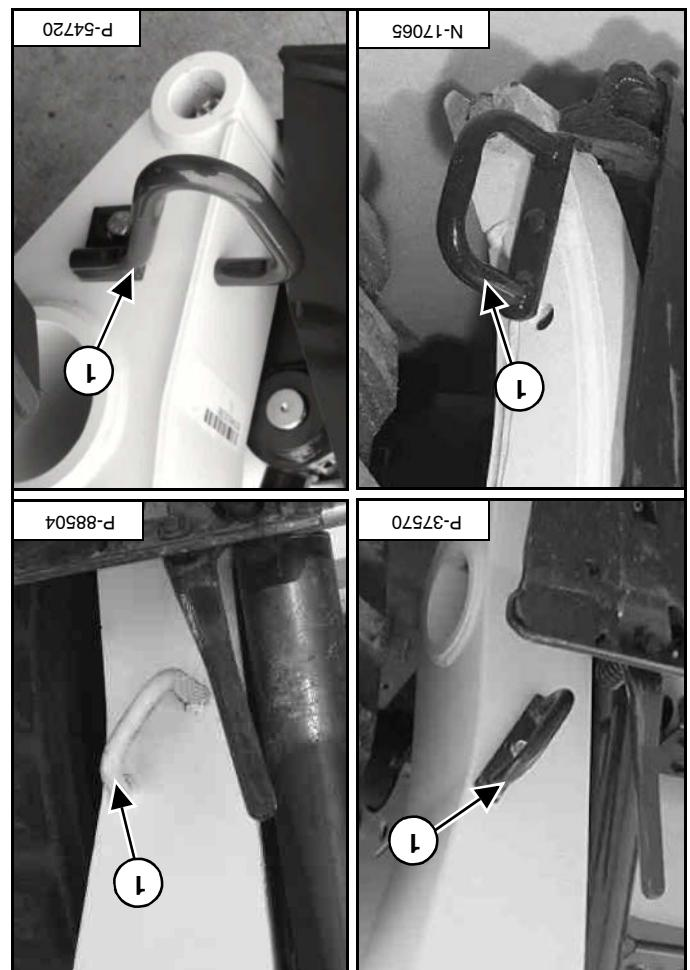

Figure 12
Install the correct hose guide (item 1) [Figure 12] on the loader.